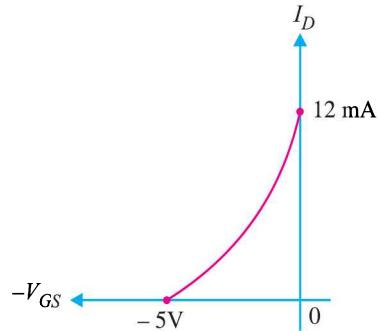

Fig. 19.14
**Example 19.1.** Fig. 19.14 shows the transfer characteristic curve of a JFET. Write the equation for drain current
**Solution.** Referring to the transfer characteristic curve in Fig. 19.14, we have,